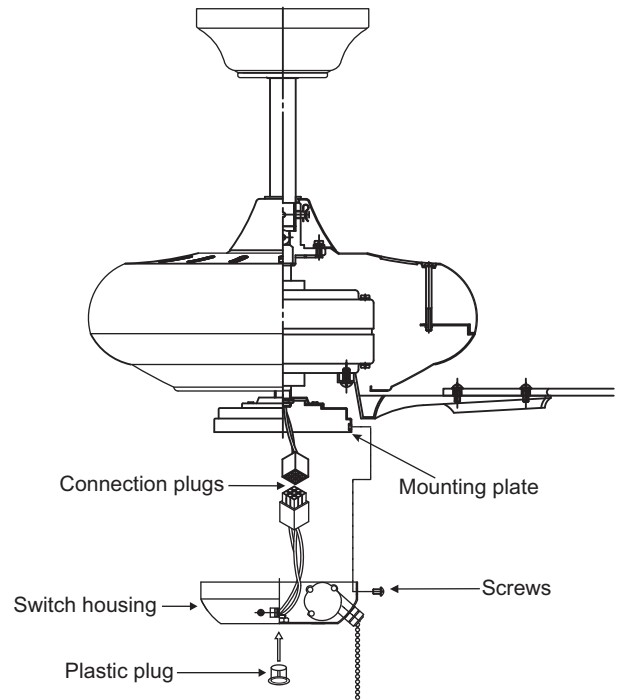

Figure 21
4. Install the switch housing to the mounting plate with screws provided. (Fig. 21)